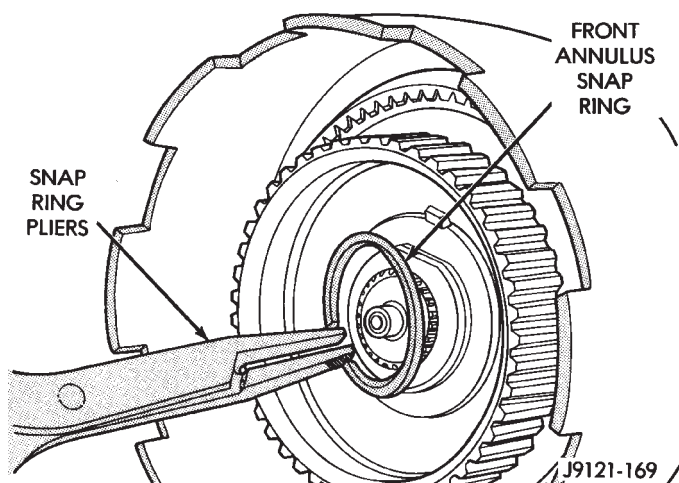

Fig. 83 Installing Front Annulus Snap Ring
(21) Install front annulus snap ring (Fig. 83). Use snap ring pliers to avoid distorting ring during installation. Also be sure ring is fully seated.